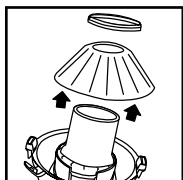

FIGURE 20
32. To remove the filter for cleaning, remove mounting ring and filter from lid cage. **FIGURE 20.** To clean the reusable dry filter, shake off excess dirt and dust or (depending on the condition of the filter) rinse with water. Allow the filter to dry completely and re-install. **DO NOT MACHINE WASH OR DRY.**